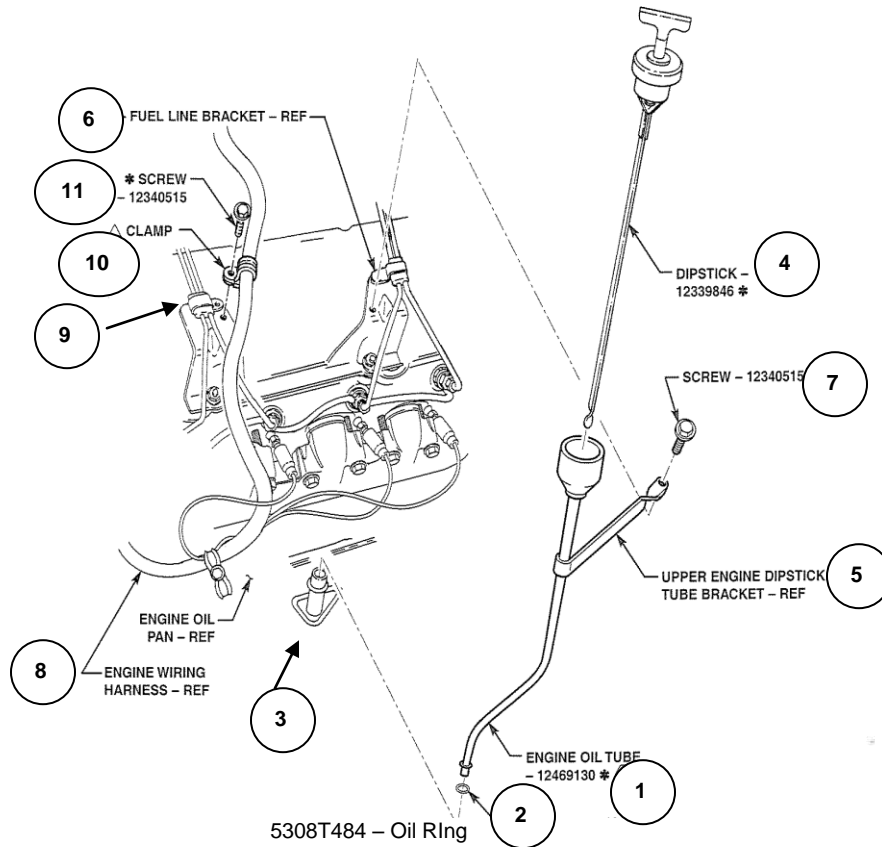

Figure 25
w. Installation of Tube, Engine, Oil P/N 12469130. TM 9-2320-387-24-1, Chapter 3, Task Para 3-2, Page 3-2 and **Figure 25** contained in these instructions. Check the oil level to ensure proper reading before removal. Refer to TM 9-2320-387-24-1 Chapters 2 for information on the correct oil level.
(1) Remove protective cap/plugs from both ends of Tube, Engine, Oil (1) prior to installation.
(2) Install Oil Ring P/N 5308T484 (2) onto Tube, Engine, Oil (1).
(3) Install Tube, Engine, Oil (1) into the engine oil pan dipstick tube port (3).
(4) Ensure dipstick bell (4) at the top of Tube, Engine, Oil is installed in front of power steering fluid return hoses.
(5) Secure upper engine Tube, Engine, Oil bracket (5) to fuel line bracket (6) with 12340515 screw (7).
(6) Secure branch of engine wiring harness (8) to fuel line bracket (9) with existing clamp (10) and 12340515 screw (11).
(7) Install Dipstick P/N 12339846 (4) in Tube, Engine Oil (1).